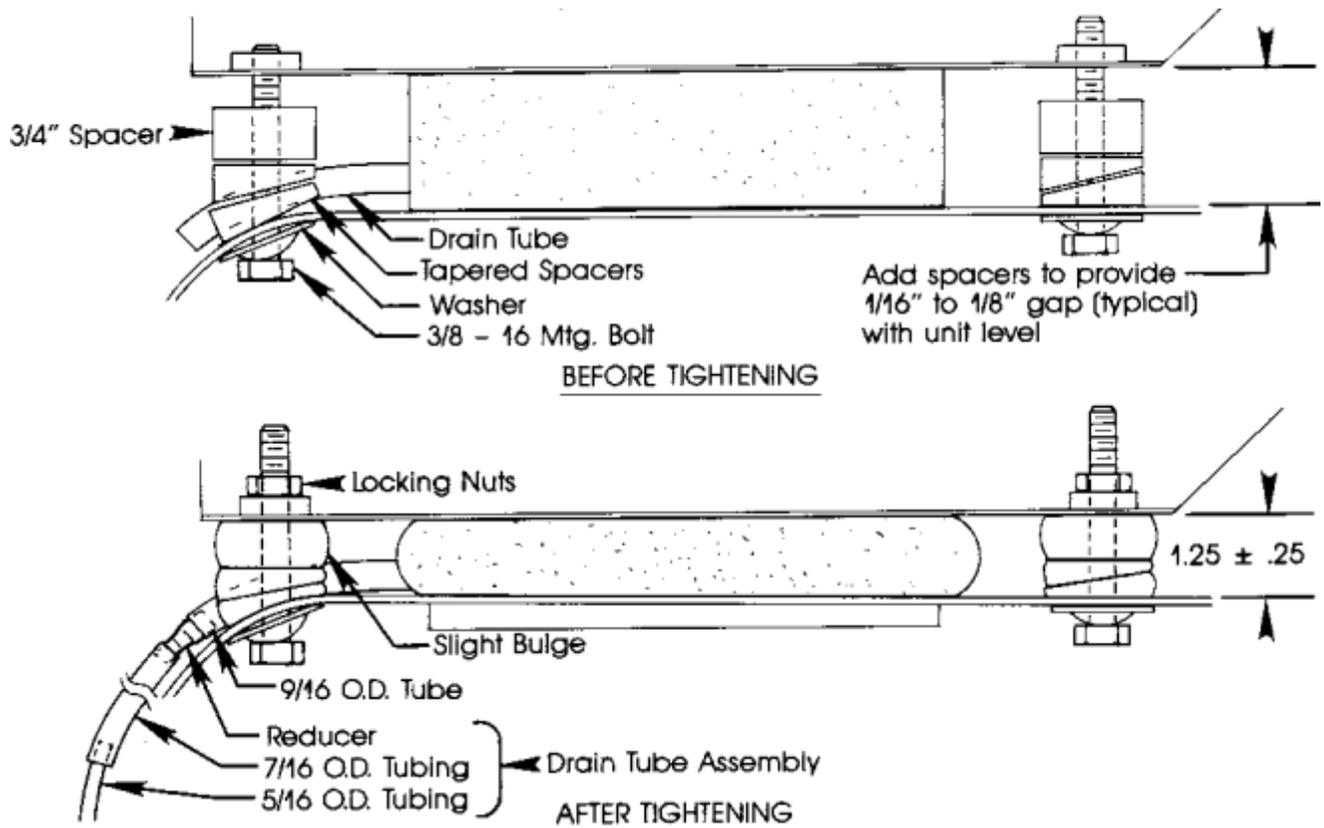

Figure 2
10. Select spacers as required to level and support unit. See Figure 2.
13. Remove cover and install (4) 3/8 - 16 nuts on mounting cap screws to prevent them from backing out. Apply sealant around bolt threads and nut plates to prevent water leakage into cab.